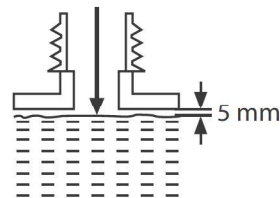

Fig. 16
- > Set the product on any suitable surface with the chain oil tank cap (28) facing upwards.
- > Unscrew and remove the tank cap (28), then add the lubricant into the tank. Use Chainsaw chain oil.
- > Use a proper funnel with a filter to prevent debris entering the tank and to avoid spilling and overfilling the tank. Do not overfill and leave approximately 5 mm of space to the lower edge to allow the lubricant to expand (Fig. 16).